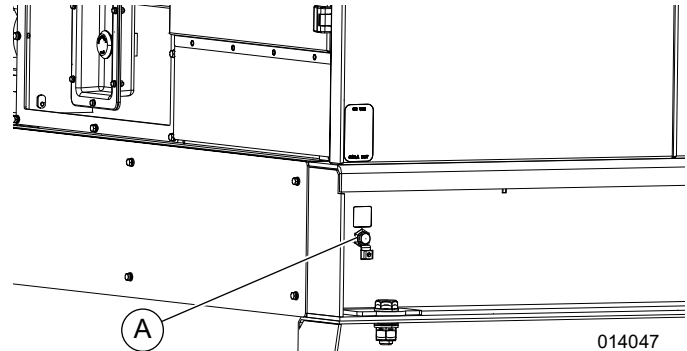

Figure 3-13. Grounding Lug
See **Figure 3-13**. A ground connection (A) is located on